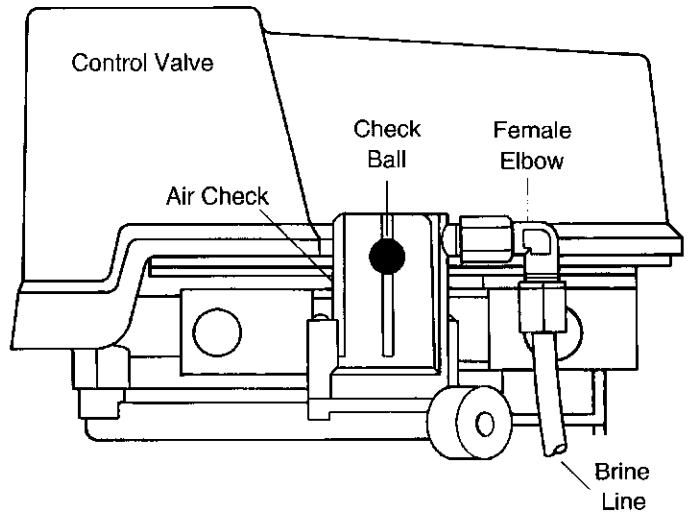

Figure 7
- B. Carefully advance pointer knob **COUNTERCLOCKWISE** to center of BRINE REFILL position and hold there until air check (Figure 7) fills with water and water starts to flow through brine line into brine tank. Do not run for more than 1 or 2 minutes.